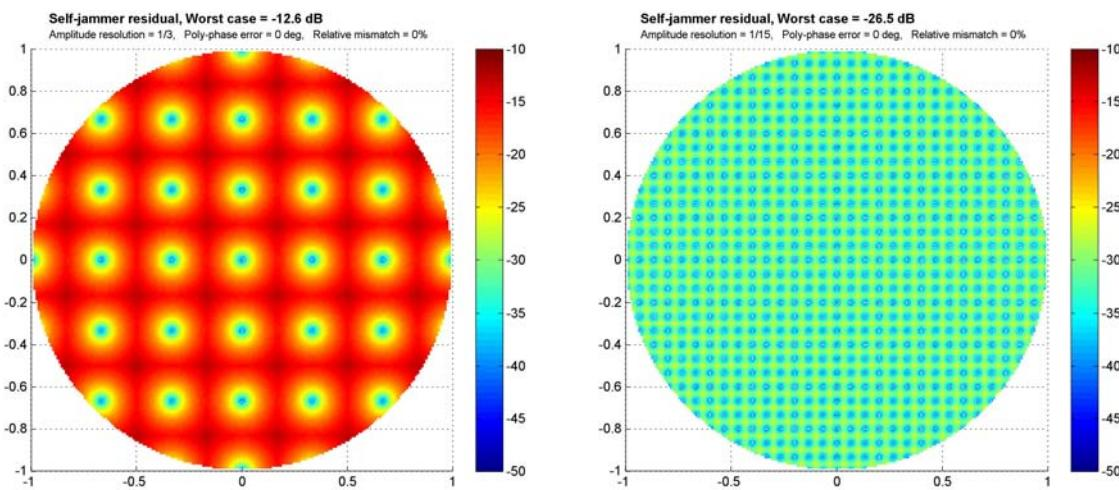

**Figure 6: Self-Jammer Cancellation Architecture**
The idea behind self-jammer cancellation is to tap a signal from somewhere along the transmit path and use it as a reference for suppressing the corresponding part of the received signal in the RF low noise amplifier. By doing so, both the self-jammer carrier and transmit amplitude and phase noise are simultaneously suppressed. By tapping the reference transmit signal after the external power amplifier, all transmit noise sources may be managed. As you can see in the block diagram in Figure 6, the reference signal is shared with the receive mixer local oscillator input.
- The high-pass filtering corner must be high enough so that the DC changes can converge quickly. There is a change of DC content going from modulated data transmission (interrogator transmit) to continuous wave (CW) transmission (interrogator receive). The DC changes must converge before the receive demodulator can demodulate correctly. The DC level change occurs during transition from transmit to receive. Varying the time constant of the high-pass filtering or sample and holding the DC offset is allowed, provided the air interface protocol is not violated.
- A bandpass filter is implemented at this node for DRM operation. This filter provides immunity from adjacent and co-channel interferers. The topology shown in Figure 6 provides a 2nd order bandpass filter via the LC tank and internal elements; this filter can provide immunity from adjacent interferers up to 2dBm at the input of the Rx port.